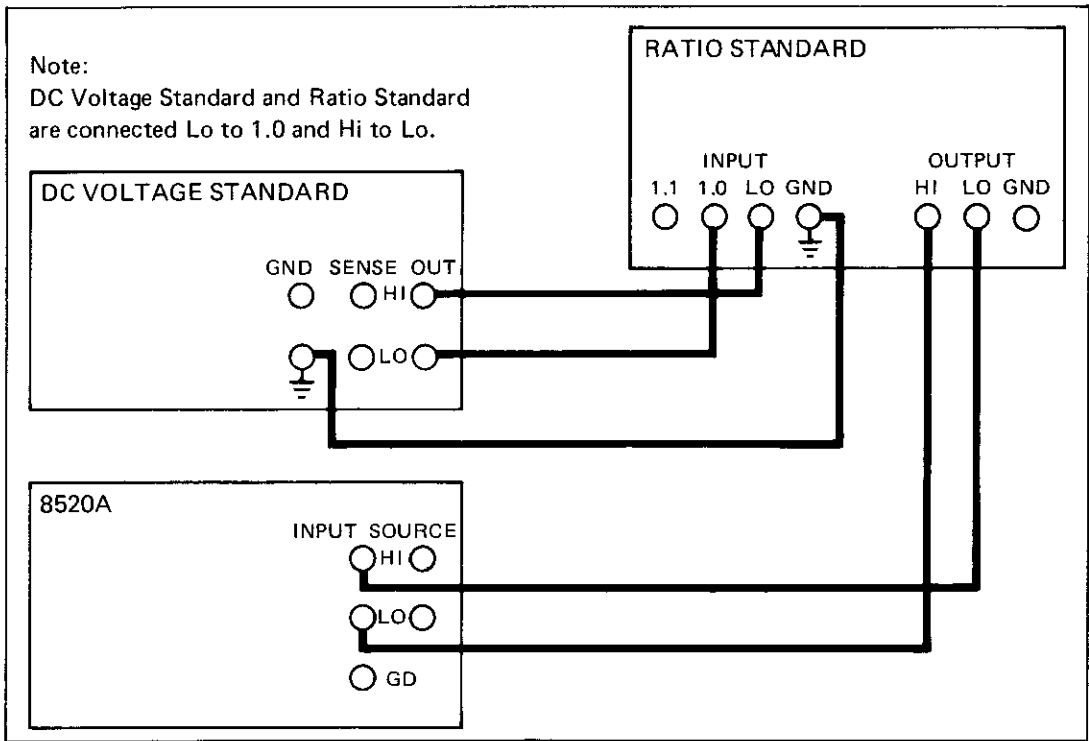

Figure 6-1. A/D Converter Calibration
4. Connect the equipment as shown in Figure 6-1, i.e., with the DC Calibrator output connected to the Ratio Standard input LO, and the DC Calibrator output LO to the Ratio Standard 1.0 input.